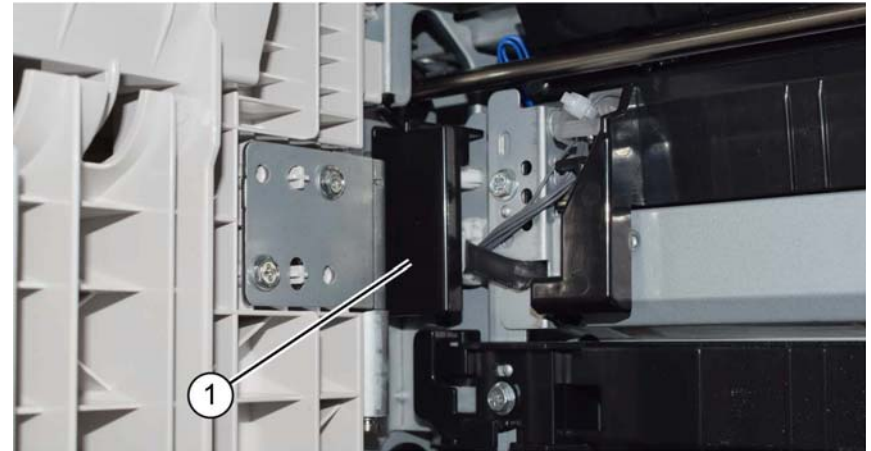

Figure 1 ESD cover removal
4. Remove the ESD cover (1), Figure 1: